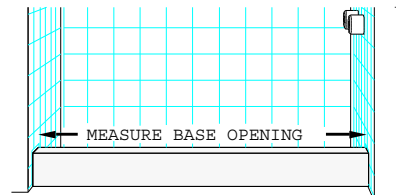

figure 1
1. Measure base opening along center of shower curb as shown in figure 1. Trim Sill (A) to 1/16" less than measurement obtained.